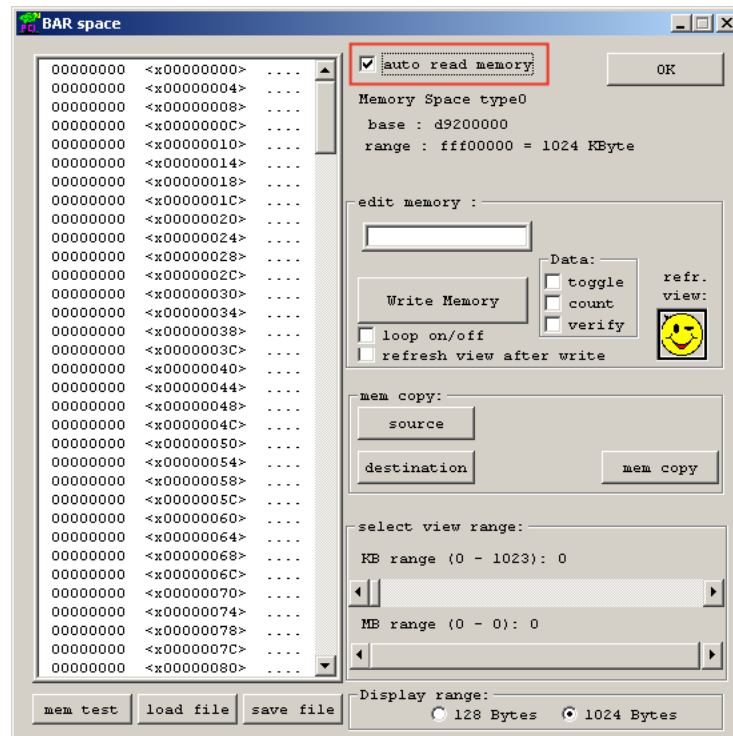

Figure 1-39: Select Auto Read Memory
21. Select auto read memory (as shown in Figure 1-39).